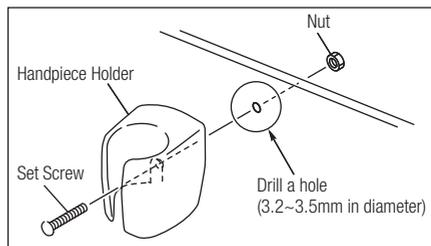

Fig. 4
- 2) On the vertical surface make a 3.2~3.5 mm hole in the plate where the holder will be mounted. Align the hole with the screw hole on the holder. Make certain the surface is clean then adhere the holder to the plate, and attach. Insert the Set Screw through the two holes on the holder and the plate. Fasten the Set Screw with the Nut from the rear of the plate. (Fig. 4)